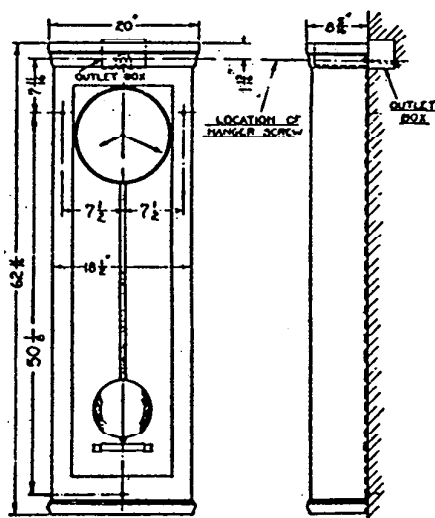

FIG. 3
The usual practice is to place the top of the Master Clock approximately eight (8) feet from the floor. This locates the hands within easy reach for setting and the pendulum in a convenient position for regulation. However, local conditions may necessitate placing the Master Clock at a different height. (See Fig. 3).